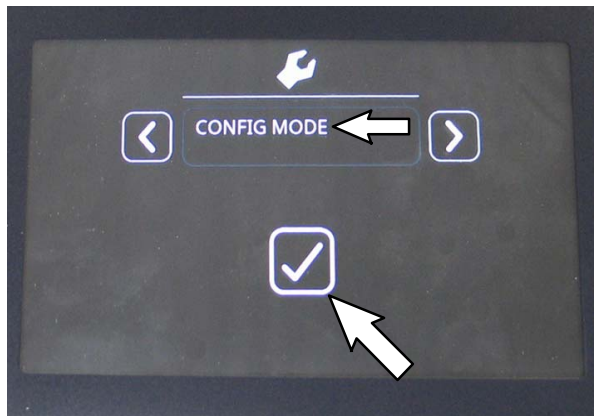

FIG. 25
20. Use the left arrow and right arrow to scroll to the Configuration Mode. Press the Check Mark button to access the configuration mode. (Fig. 25)